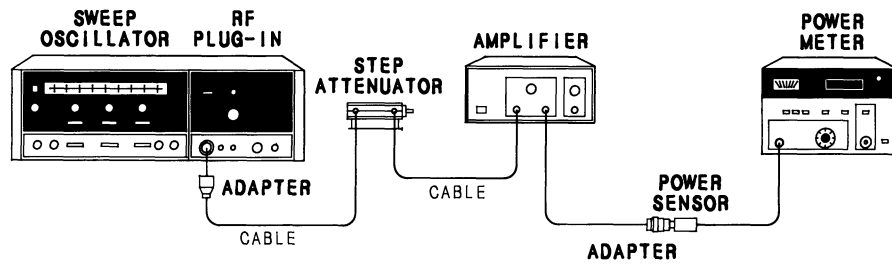

Figure 4-1. Frequency Response, Absolute Power Level Accuracy Test Setup
1. Connect the equipment as shown in Figure 4-1, leaving the HP 11975A unconnected.
4. Calibrate the power meter. Connect it by means of the semi-rigid cable (shown connected to HP 11975A in Figure 4-1) to the step attenuator. Set step attenuator to 0 dB.
7. Connect the HP 11975A to the test equipment as shown in Figure 4-1. On the HP 11975A, set the OUTPUT POWER LEVEL control to the + 16 dBm position.